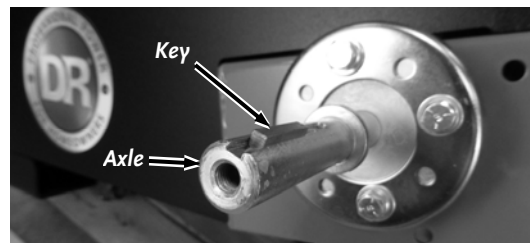

Figure 8
10. Remove the Bolt, Lock Washer, large Flat Washer and left side Wheel from the Axle. Take note of the Key that is in the Axle Keyway (**Figure 8**), if it falls out, keep it in a safe place.